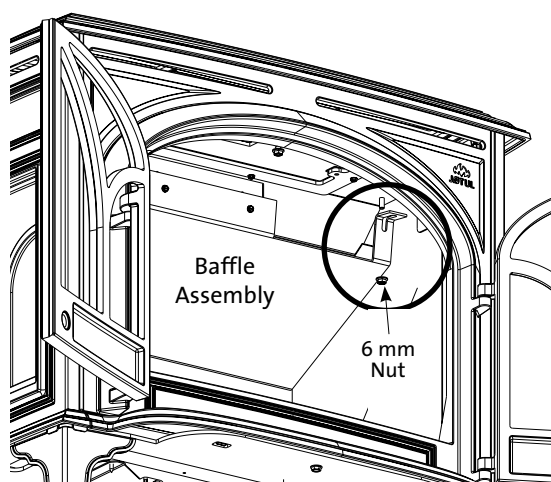

Figure 5.6.
- Remove two, 6 mm nuts to detach the secondary baffle from the firebox. See figs. 5.6 - 5.7.